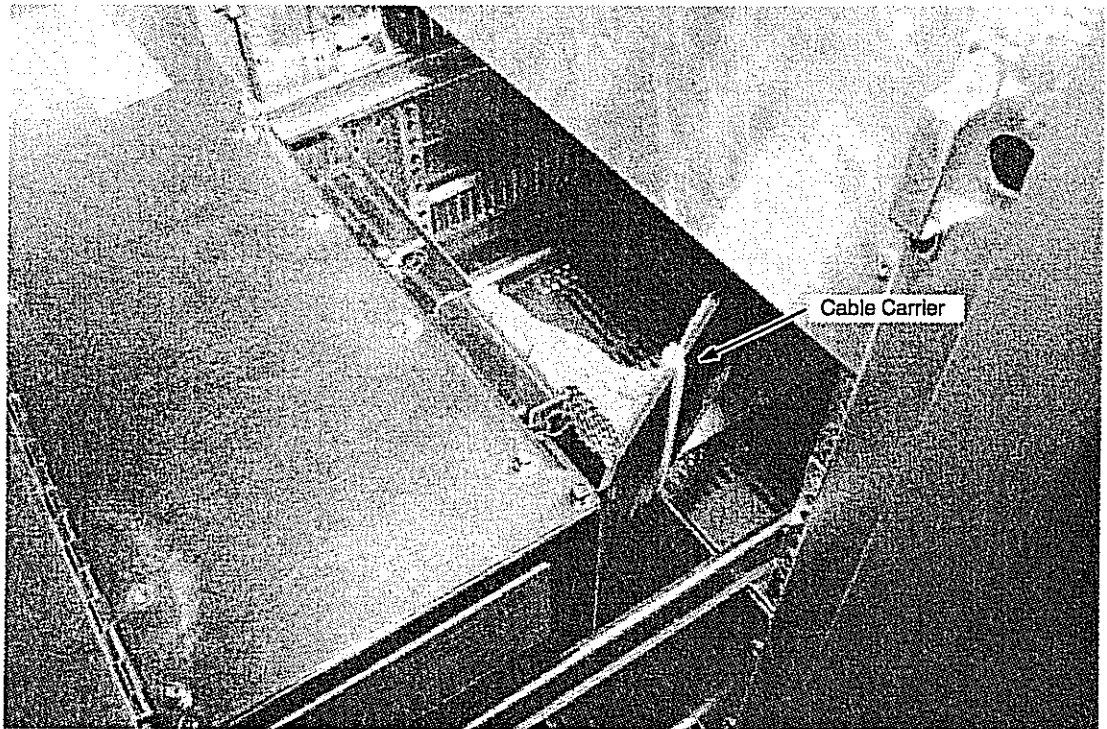

Figure 7-58. TD-2 Tape Drive Cable Carrier
11. Remove the two nuts attaching the drive to the cable carrier located on the right rear side of the drive. Refer to Figure 7-58.